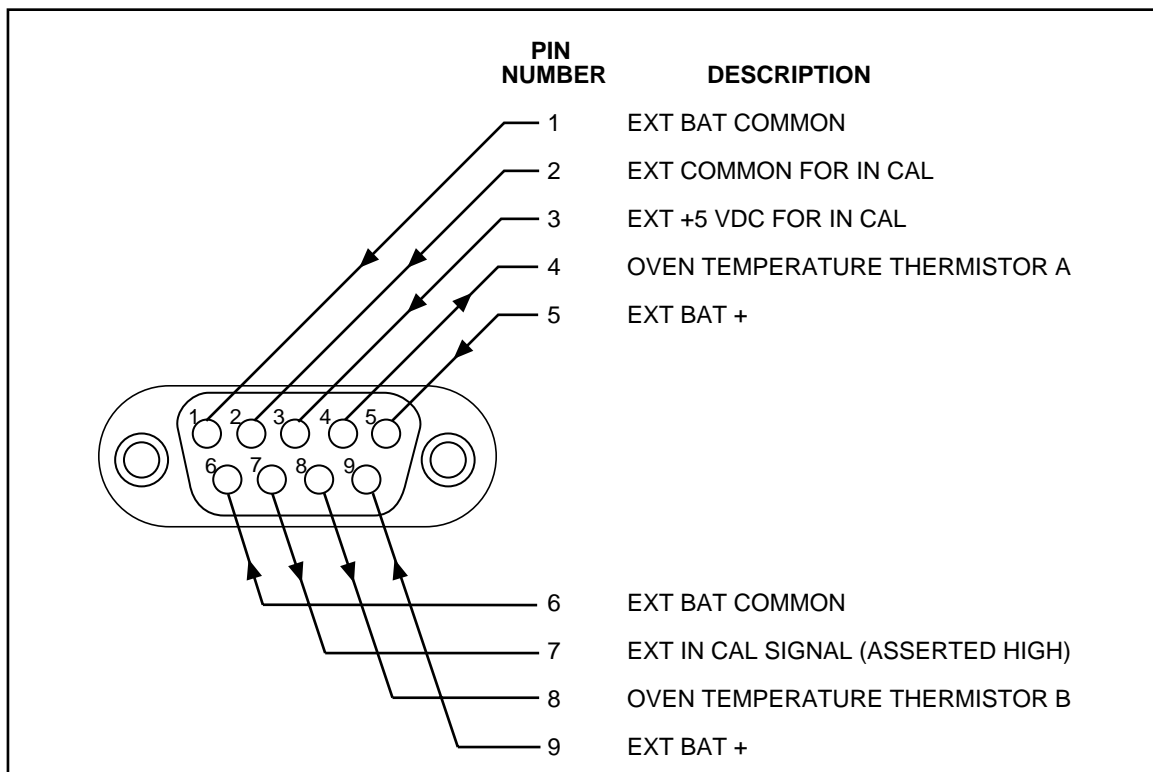
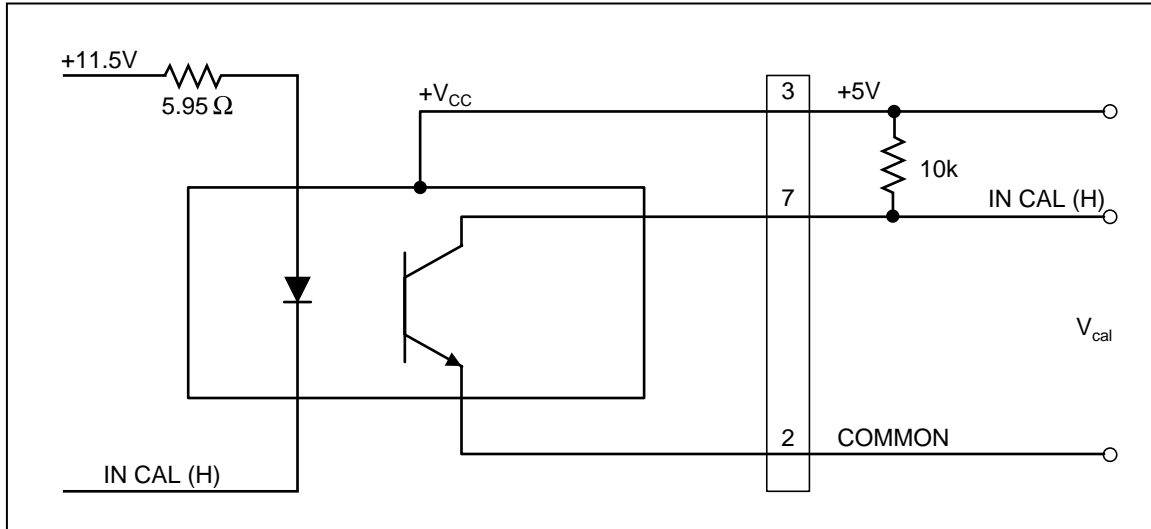

Figure 3-7. 732B MONITOR/EXT BAT IN Connector Pinout
Figure 3-10. IN CAL Status Output Circuit
You can power the standard using an external battery such as the 732B-7001 External Battery/Charger, or other 12 to 15V dc source that can supply at least 300 mA. You connect the external dc source through the MONITOR/EXT BAT IN connector. Figure 3-7 shows a pinout diagram of the MONITOR/EXT BAT IN connector. Use this method if you need to operate the standard on battery power for a period longer than 72 hours. Or, if the preferred power source is 12 to 15V dc, you can use this method to power the standard permanently.
5. Fabricate and connect a cable with a 9-pin connector on each end so that the battery output from the 732B-7001 is connected to the external dc input of the 732B. Refer to Figures 3-7 and 3-8 for the connector pinouts.
As shown in Figure 3-7, MONITOR/EXT BAT IN pins 4 and 8 connect to the two terminals of the oven temperature thermistor. To monitor the oven temperature, measure the resistance between these two pins. The nominal resistance at normal operating temperature is between 36.5 k Ω and 42.5 k Ω . The resistance should change with time by no more than 900 Ω per year. The TC (temperature coefficient) of the thermistor is approximately 2 k Ω per $^{\circ}\text{C}$.
As shown in Figure 3-7, three of the MONITOR/EXT BAT IN pins are connection points for monitoring the state of the IN CAL indicator. Figure 3-10 illustrates the IN CAL status output circuit inside the 732B. Proceed as follows to use this connector to remotely monitor the IN CAL indicator: